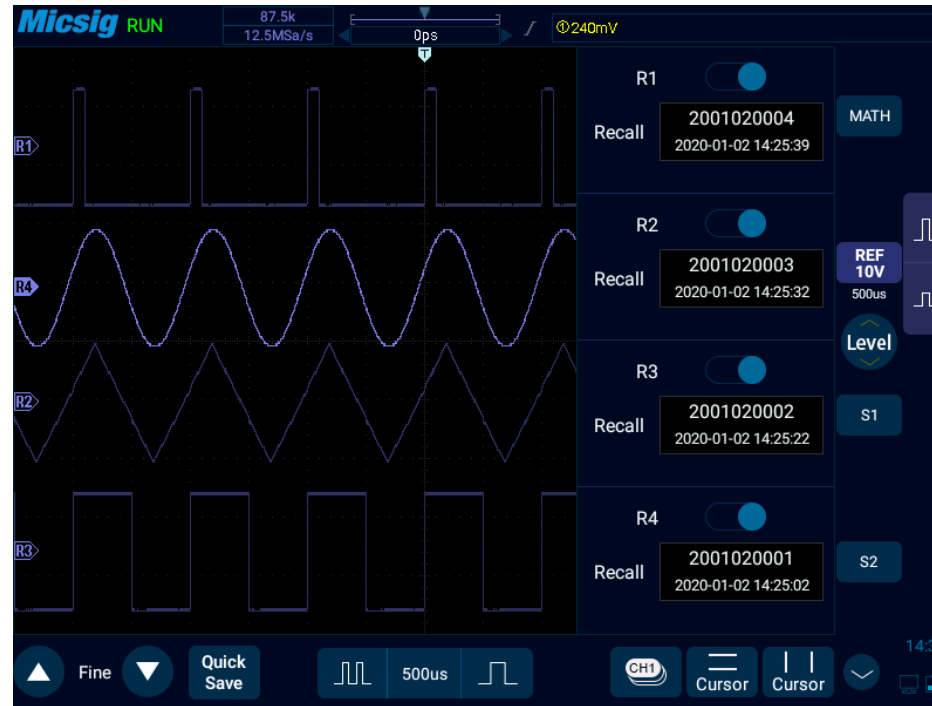

Figure 9-6 Restore Reference Waveform
- 3) Click the name of the reference waveform file to be called. The file is loaded into R1 channel. Then, R1 channel is turned on as the current channel waveform, and the reference waveform channel icon  is highlighted. The displayed state changes from “Close” to “Open”. As in Figure 9-6, the brighter reference waveform is shown as the current reference channel.